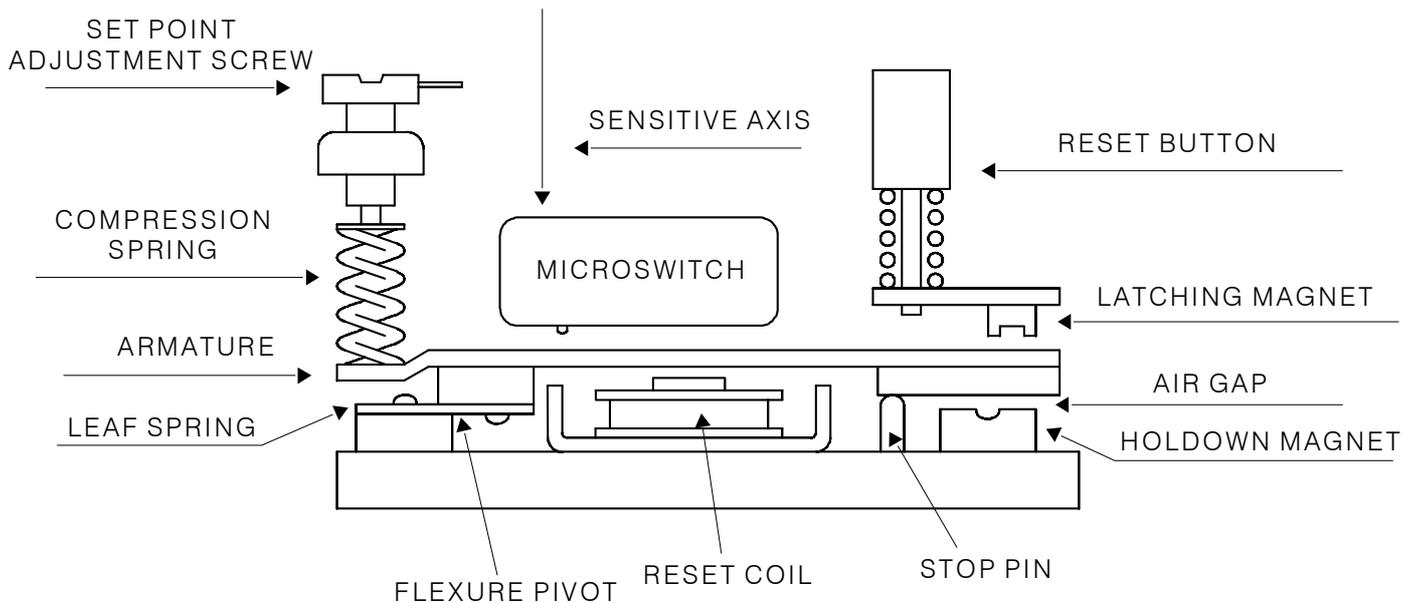

Figure 4-1. Operating Principle for the Vibration switch, Model EURO366.
The Vibration switch Model EURO366 (Refer to Figure 4-1), is sensitive to vibration in a direction (the sensitive axis) perpendicular to its mounting base. It contains a vibration detecting mechanism, which also functions as a “mechanical amplifier”, to activate a snap-action switch when the selected level of vibration is exceeded and the detecting mechanism “trips”.
In making these measurements the cover must be removed to gain access to the Setpoint adjusting screw. (Ref. Figures 4-1 & 4-2.)
With the equipment on which the Vibration switch is mounted not operating, back off the Setpoint adjusting screw counterclockwise (CCW) two turns and press the reset button. Then turn the Setpoint adjusting screw slowly clockwise until actuation occurs (the armature assembly is against the latch magnet, Figure 4-1). This is the zero vibration point, or actuating point, with the machine not operating. A mark should be made with a lead pencil or other convenient means to permanently record this “zero vibration point”. Subsequent measurements are made relative to this point.
Vibration switches do not normally require any maintenance or repair, however, listed below are some of the possible malfunctions that may occur and their recommended solutions (Ref. Figure 4-1). Perform all tests with field wiring disconnected.
a. Functional Test - (Ref. Figure 4-1)
8. Broken leaf spring - (Ref. Figure 4-1).
Defective or improperly adjusted switch - (Ref. Figure 4-1).